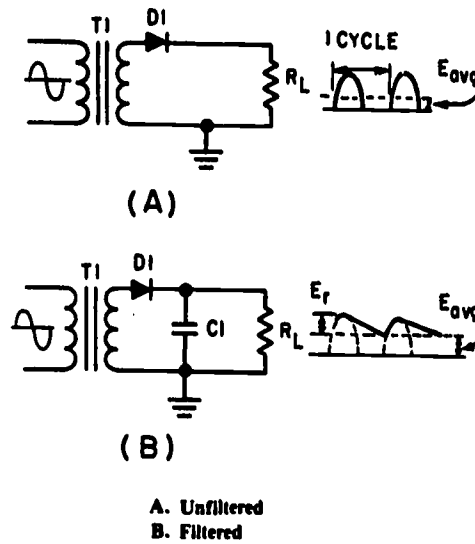

Fig 4-16. Half-wave rectifier with and without filtering.
For you to have a better understanding of the effect that filtering has on E_{avg} , a comparison of a rectifier circuit with a filter and one without a filter is illustrated in views (A) and (B) of figure 4-16. The output waveforms in figure 4-16 represent the unfiltered and filtered outputs of the half-wave rectifier circuit. Current pulses flow through the load resistance (R_L) each time a diode conducts. The dashed line indicates the average value of output voltage. For the half-wave rectifier, E_{avg} is less than half (or approximately 0.318) of the peak output voltage. This value is still much less than that of the applied voltage. With no capacitor connected across the output of the rectifier circuit, the waveform in view (A) has a large pulsating component (ripple) compared with the average or d.c. component. When a capacitor is connected across the output (view B), the average value of output voltage (E_{avg}) is increased due to the filtering action of capacitor C1.
A comparison of the wave forms shown in figure 4-16 illustrates that the addition of C1 to the circuit results in an increase in the average of the output voltage (E_{avg}) and a reduction in the amplitude of the ripple component (E_r) which is normally present across the load resistance.